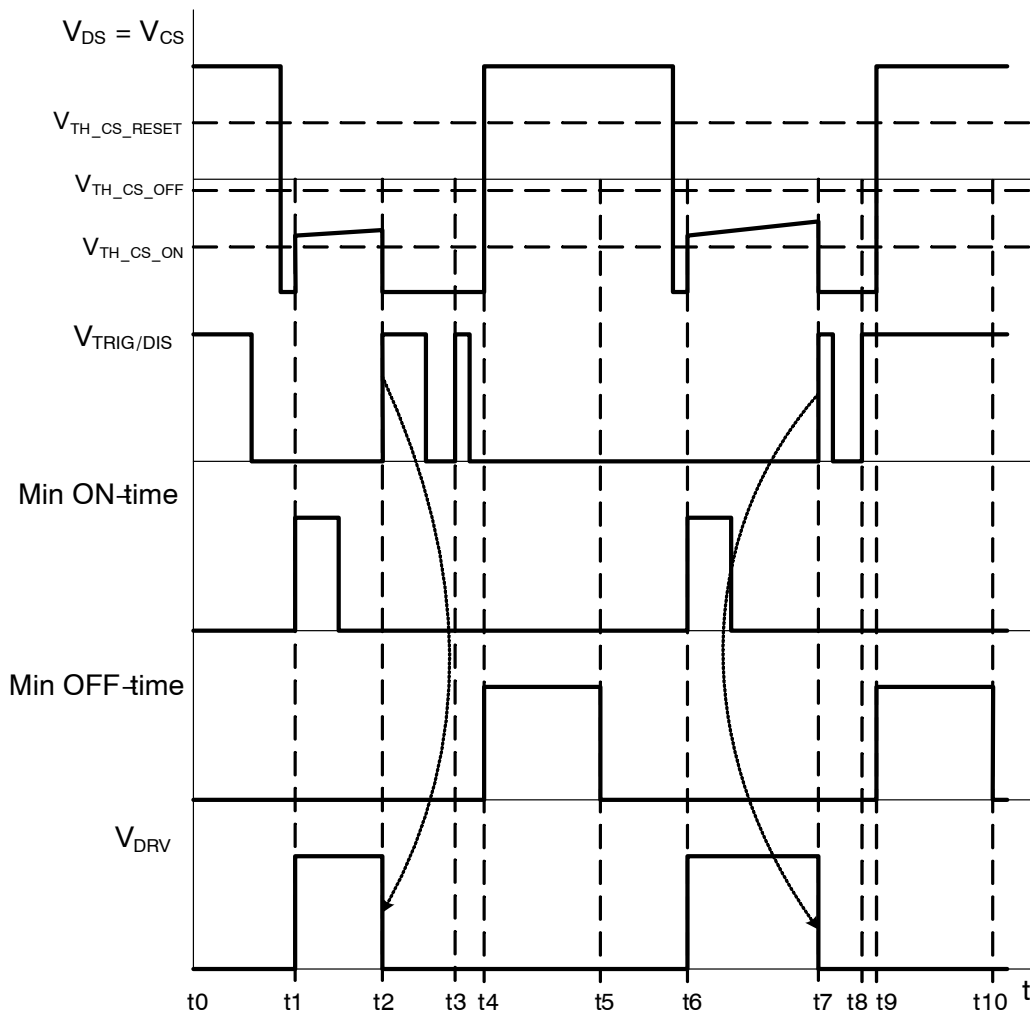

Figure 57. Trigger Input Functionality Waveforms – Two Pulses at One Cycle
Figure 57 shows IC behavior in case the trigger signal features two pulses during one cycle of the VDS (CS) signal. The trigger goes low enables the DRV just before time t1 and DRV turns-on because the VDS voltage drops under $V_{TH_CS_ON}$ threshold voltage. The trigger signal disables driver at time t2. The trigger drops down to LOW level in time t3, but IC waits for complete minimum off-time. Minimum off-time execution is blocked until CS pin voltage